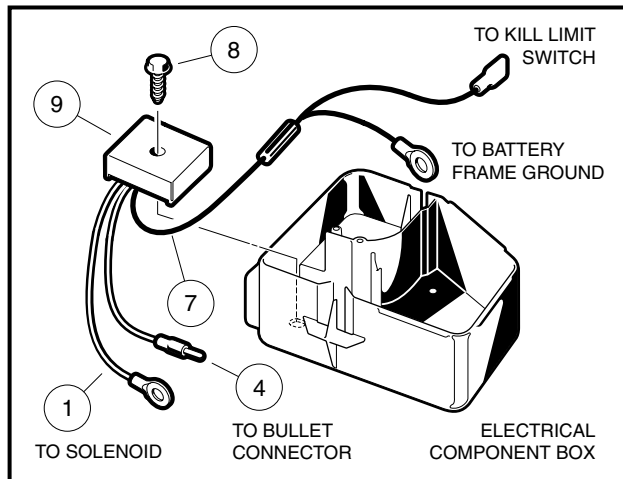

Figure 12-16 Voltage Regulator
5. Disconnect the voltage regulator red wire (1) at the large post on the solenoid, the yellow wire (4) at the bullet connector, and the black wire (7) from the wire harness and at the battery frame ground (**Figure 12-16, Page 12-14**).
6. Remove the voltage regulator mounting screw (8) and remove the voltage regulator (9).
1. Position the voltage regulator (9) in the electrical component box and install the mounting screw (8) (**Figure 12-16, Page 12-14**). Tighten screw to 23 in-lb (2.6 N·m).
2. Connect the voltage regulator red wire (1) at the large post on the solenoid with the other red wires, the yellow wire (4) at the bullet connector, and the black wire (7) to the wire harness and the battery frame ground (**Figure 12-16, Page 12-14**).